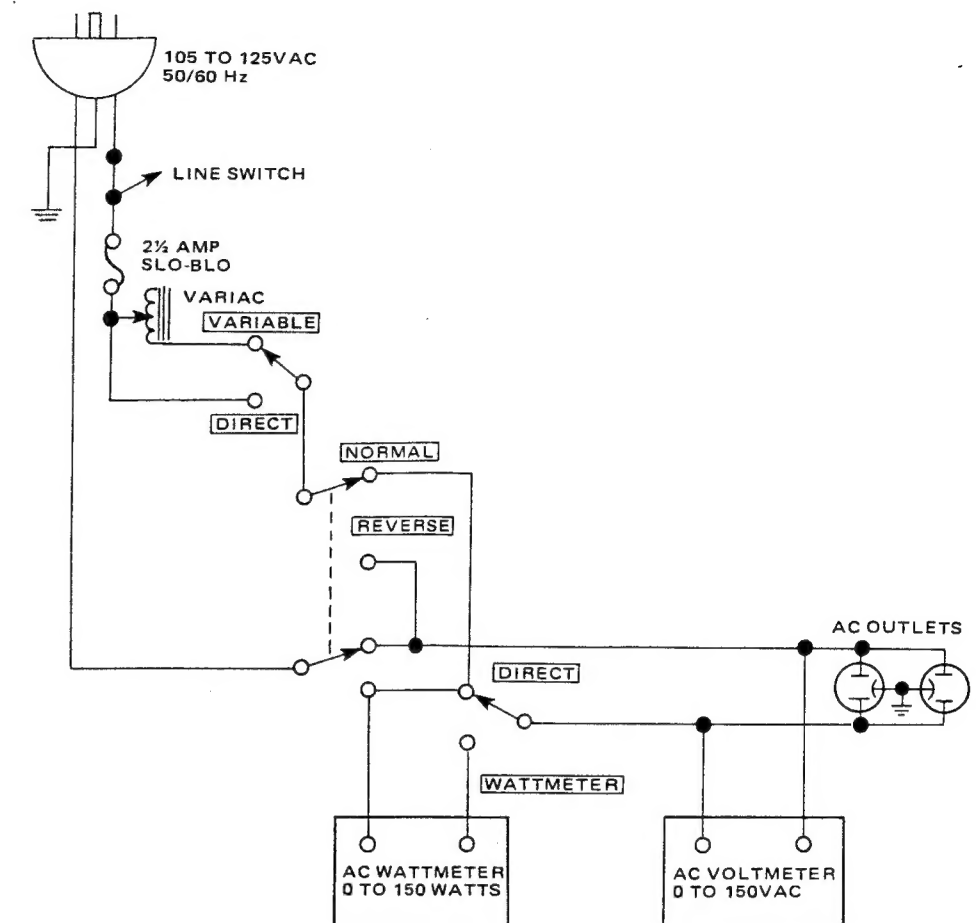
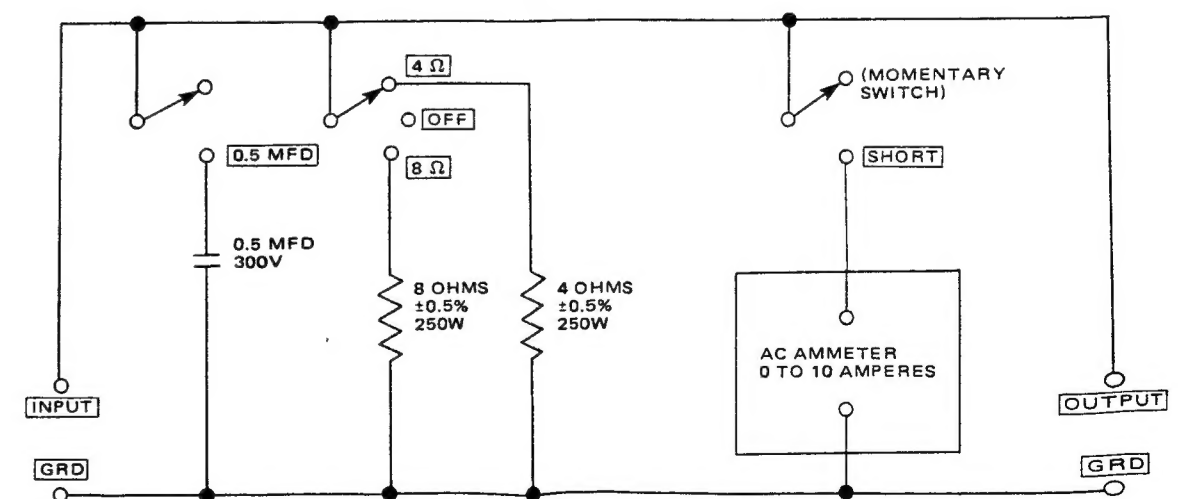

Figure 1. AC Power Control Box Simplified Schematic
Figure 2. Amplifier Output Load Box Simplified Schematic
Table 1 lists the test equipment required for servicing the PM250/PM400 Stereo Console Amplifier. The wattmeter, AC voltmeter, and variable autotransformer may be assembled as a test fixture as shown schematically in Figure 1. The load resistors and AC ammeter may be assembled into a second test fixture as shown in Figure 2.
1. Make the test setup shown in Figure 1 with the instrument controls set in the following positions: